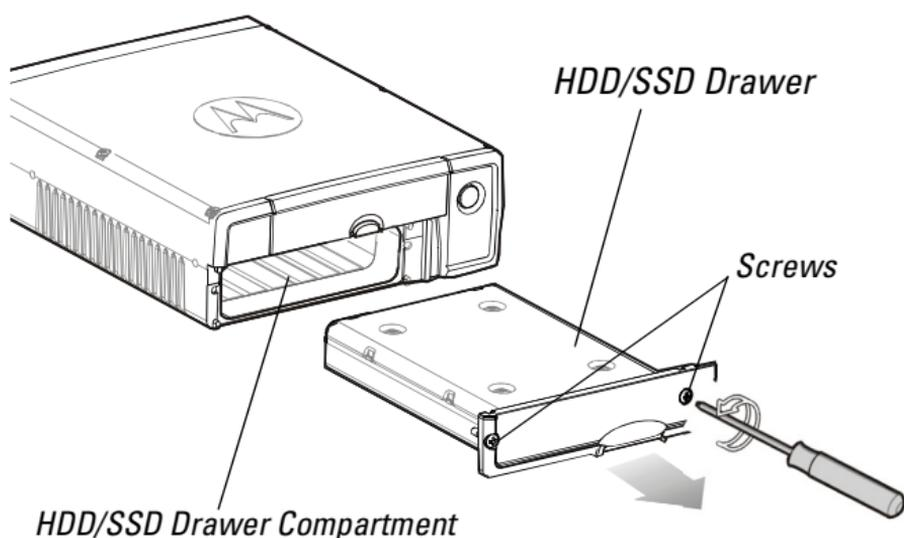

Figure 5. CPU Box - Removable Hard Disk Drive/Solid State Disk Drawer
3. Remove the two screws securing the HDD/SSD Drawer to the CPU Box (see Figure 5).